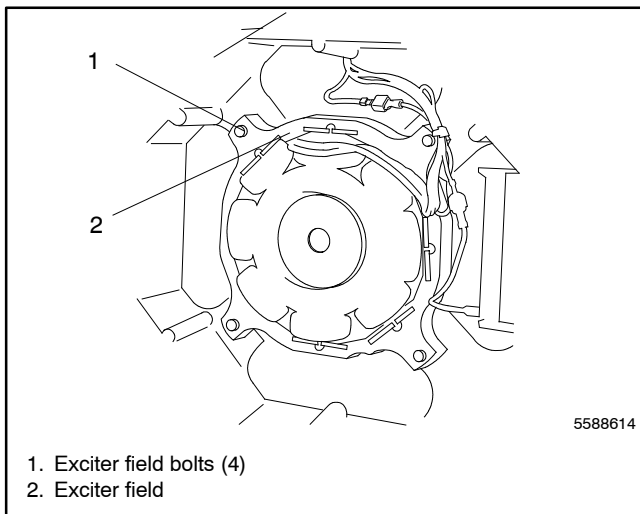

Figure 15-16 Installing Exciter Field
17. Position the exciter field leads at the top. Install the exciter field using four bolts and washers and torque to specifications. See Figure 15-16.